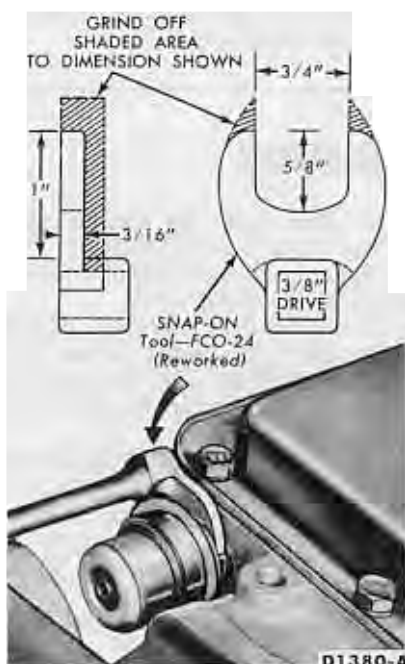

FIG. 30—Removing Vacuum Unit
2. Remove the transmission vacuum unit with the tool shown in Fig. 30. Remove the vacuum unit gasket and control rod.